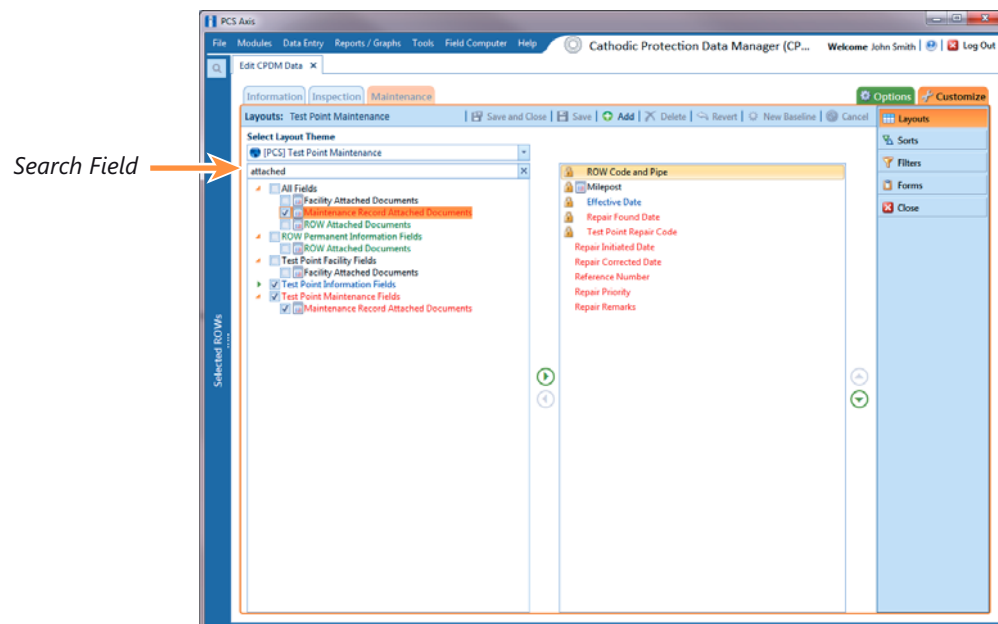

Figure 7-102. Layouts
- a Click the check box for the field **Maintenance Record Attached Document** in the left pane of the window (Figure 7-102, page 321).